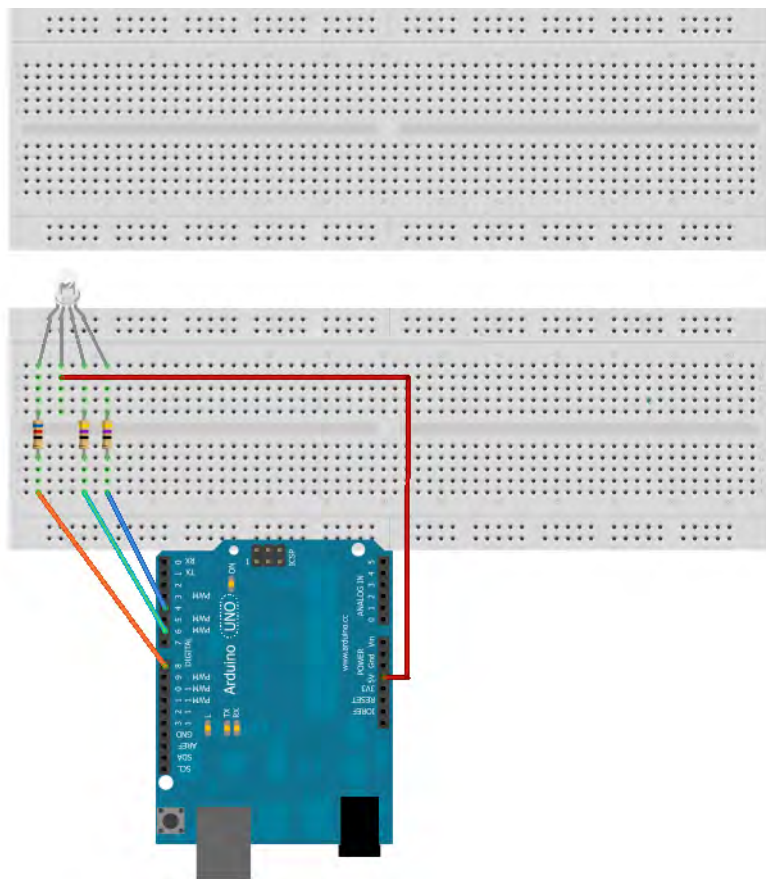

Figure 4-2. *Step two.*
2. **Connect the LCD.** Connect the common ground lead on the LCD (screen display) to the GND pin on Arduino. Connect the VCC lead on the LCD to the 3.3 power pin on Arduino. Connect the DATA lead on the LCD to Arduino pin 2 (Figure 4-2).